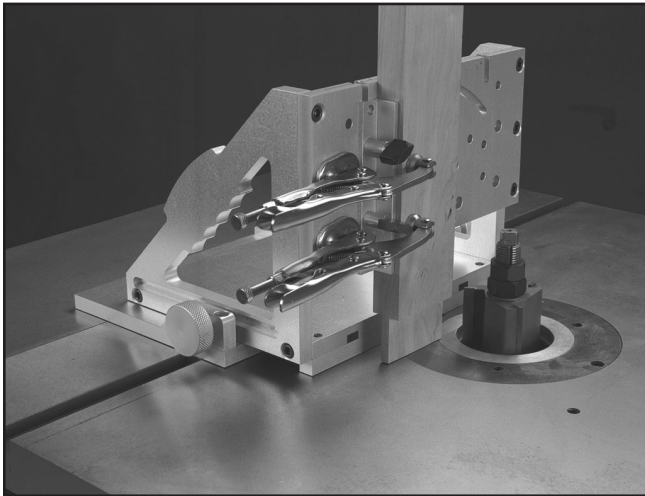

Figure 8. Vertical clamping for tenon cutting.
1. There are $\frac{3}{8}$ " pre-drilled holes that accept our W1301 6" Vice Clamp (not included). These holes are strategically located on the face plate so you can position your workpiece and clamp it from any direction. Figure 8.